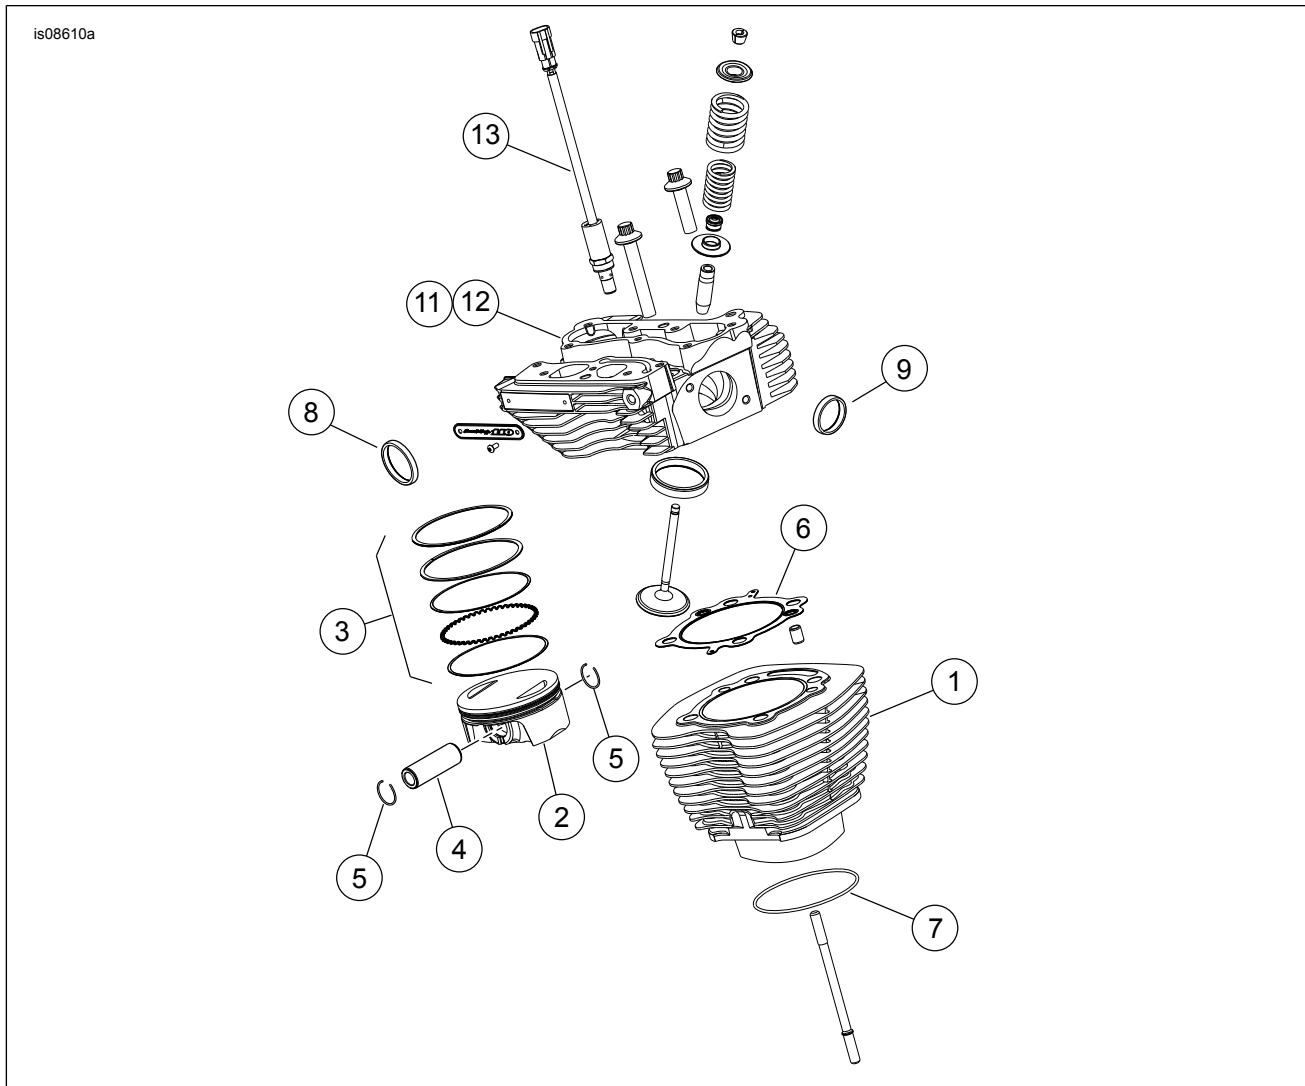
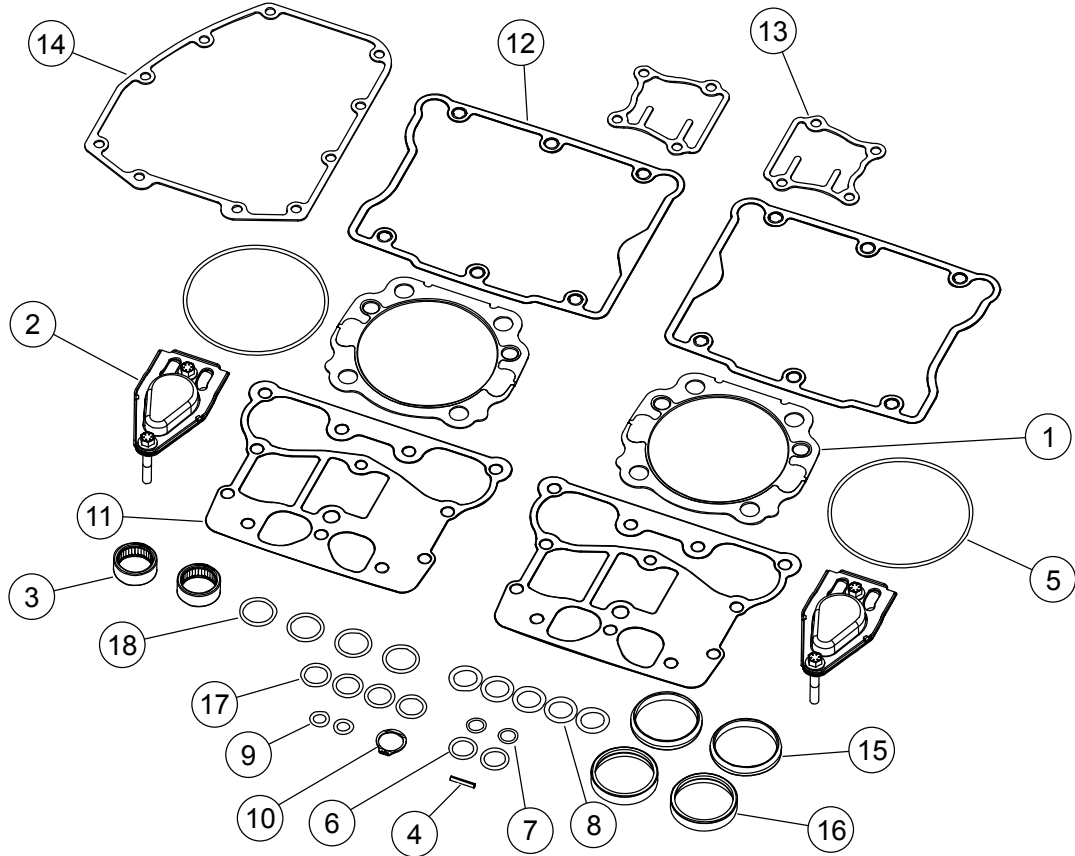

Figure 1. Service Parts: Screamin' Eagle Twin Cam 110 (1800 cc) Bolt-on Conversion Kit
Figure 4. Service Parts: Screamin' Eagle Twin Cam 110 (1800 cc) Bolt-on Conversion Kit
See Figure 1 to Figure 4, and Table 1 to Table 4.
1. See Figure 4. Install new inner cam bearings included with this kit.
2. See Figure 1 through Figure 4. Assemble cams to cam plate and engine top end using parts from kit. Refer to appropriate ENGINE sections in service manual.